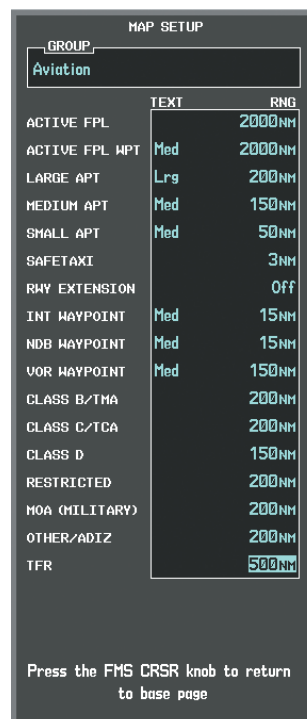

Figure 6-49 Navigation Map Page Setup Menu, Weather Group
- 5) Turn the large **FMS** Knob to scroll to the TFR product range setting (Figure 6-49).